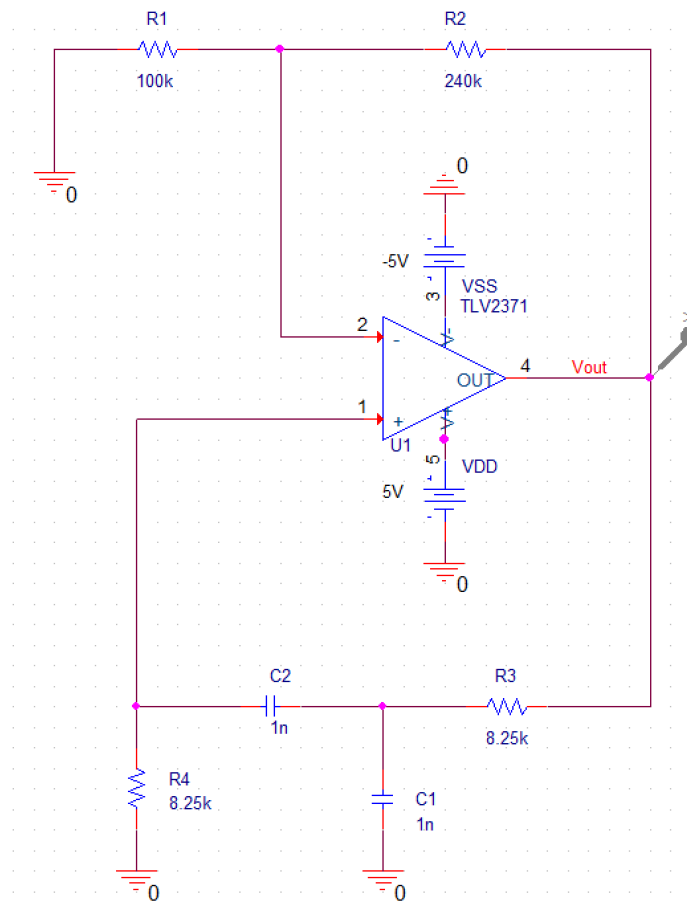

Fig. 5 Schematic diagram of the oscillator circuit
- 2.2 Construct the oscillator circuit in Fig. 5 in PSpice with the specified resistance, capacitor values, and supply voltages.
- 2.6 Based on the circuit diagram shown in Fig. 5, construct the measurement setup for the oscillator circuit, as shown in Fig. 6, using the same settings in Step 2.2 with $R_2 = 240 \text{ k}\Omega$.
- 2.9 Based on Fig. 5, change $R_3 = R_4$ from $8.25 \text{ k}\Omega$ to $4.02 \text{ k}\Omega$, repeat Step 2.8, and record the output voltage (V_{out}) versus time characteristics in the sheet “Step 2.9” of the Excel file “Lab 4 – Feedback Circuit.xlsx”. Make sure to capture the date and time in the screenshot to avoid mark
Q9. (15 Points) For the oscillator circuit in Fig. 5, find its loop gain $L(s)$, the frequency for the zero loop phase, and R_2/R_1 for oscillation.